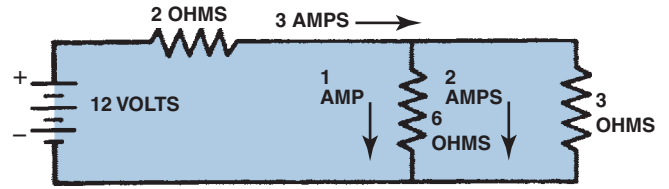

FIGURE 5-23 A series-parallel circuit.
- A circuit where the load is in series with other loads in parallel. ● SEE FIGURE 5-23. An example of this type of series-parallel circuit is a dash light dimming circuit. The variable resistor is used to limit current flow to the dash light bulbs, which are wired in parallel.